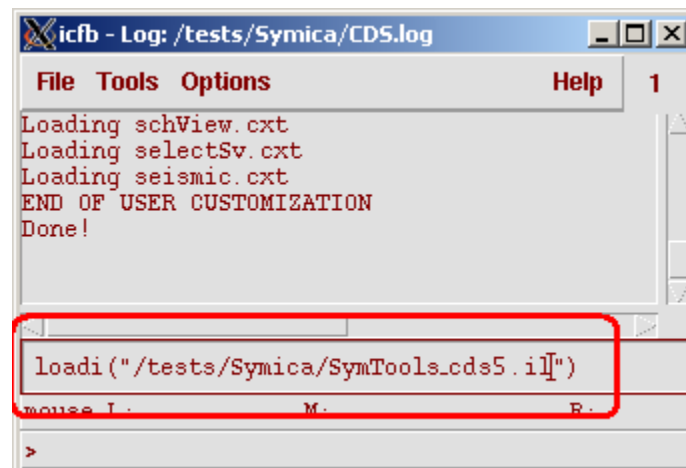

Fig.2.2.
2. By loading from .cdsinit file (fig.2.2).